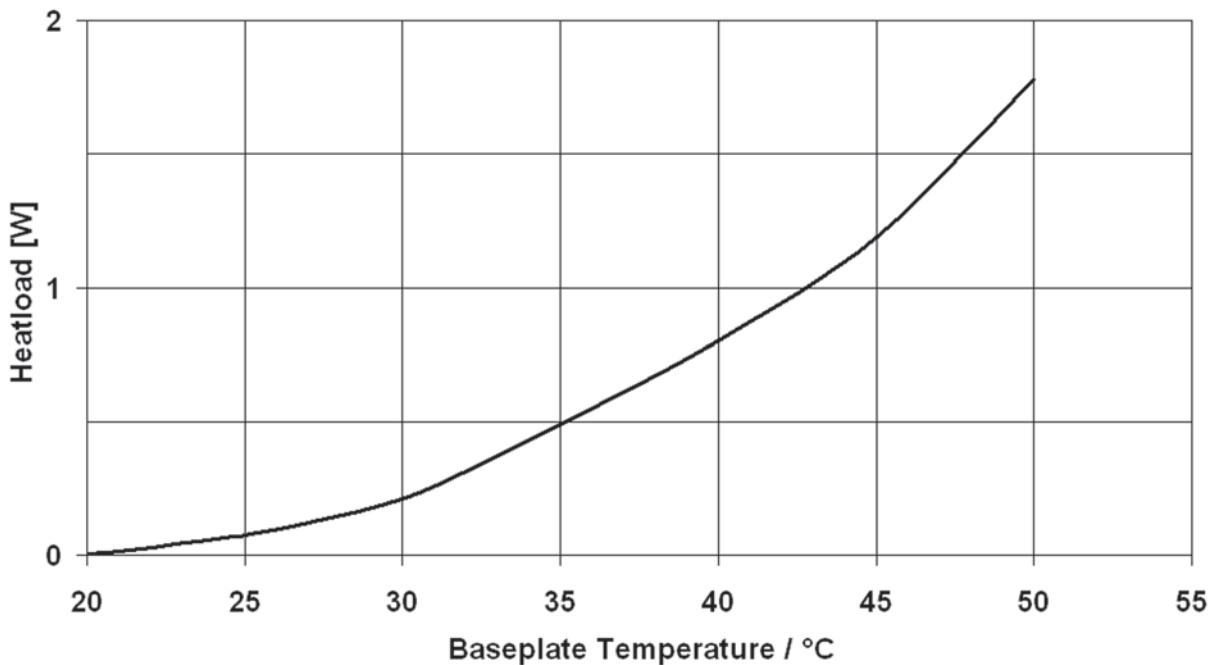
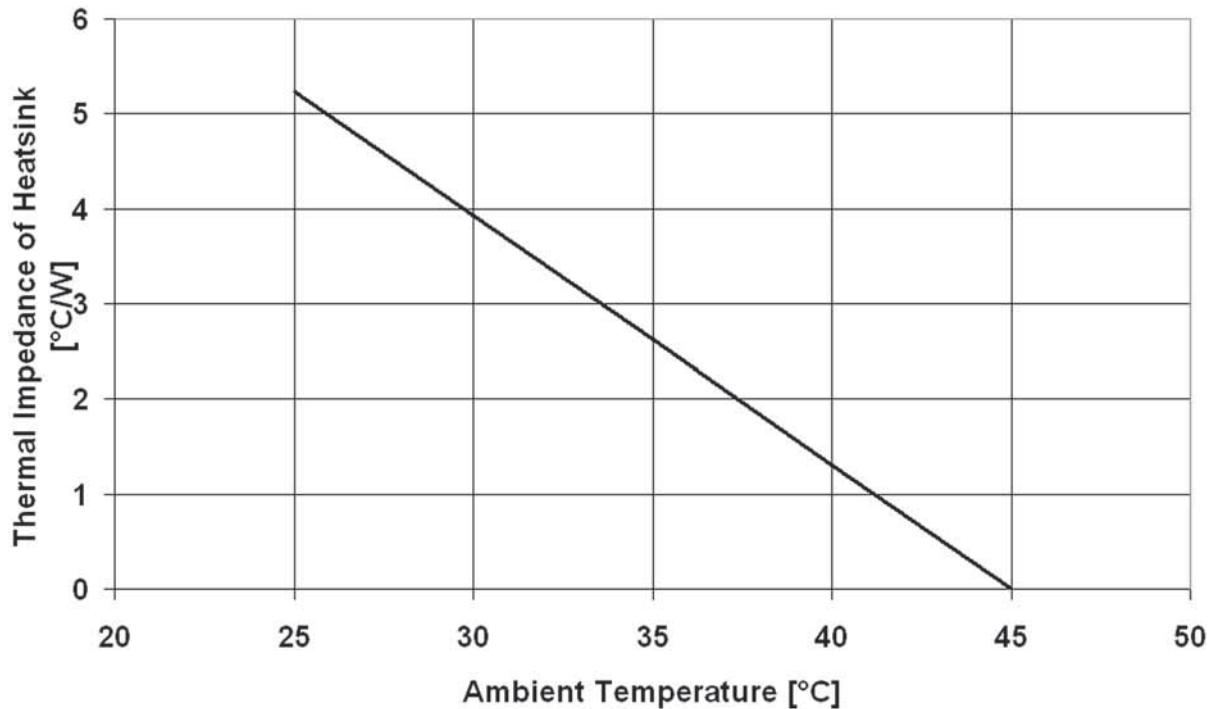

Figure 3-1. Estimated Heat Dissipation of the CUBE Laser Head
Figure 3-2. Estimated Heat Sink Requirements for an Ambient Temperature of 45°C
It is imperative that the laser head be adequately heat sunk; otherwise, it will overheat and shut down. Figure 3-1, below, shows the heat dissipation of the CUBE laser head for a given base plate temperature. The graph in Figure 3-2 (p. 3-3) allows determination of the heat sink thermal impedance requirement, based on the anticipated maximum ambient temperature of 40°C.
2. (Optional): If additional thermal conduction is required, the only recommended thermal conductance aids are pyrolytic graphite pads or thermal materials, such as Sil-Pad or Indium foil. Thermal compound or any flowable compound that can enter into screw openings is not recommended. Refer to Figure 3-2 (p. 3-3) for heat sink requirements.